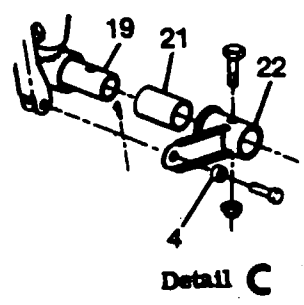

Figure 10-2. Rudder Pedal Installation
REFER TO FIGURE 10-2
### 10-5. REMOVAL AND INSTALLATION. (Refer to figure 10-2.)
- i. (Refer to figure 10-2.) Remove bolts securing bearing blocks (11) and carefully work rudder bars out of tunnel area.
- h. Disconnect rudder trim bungee from rudder bar arm (index 16, figure 10-2).